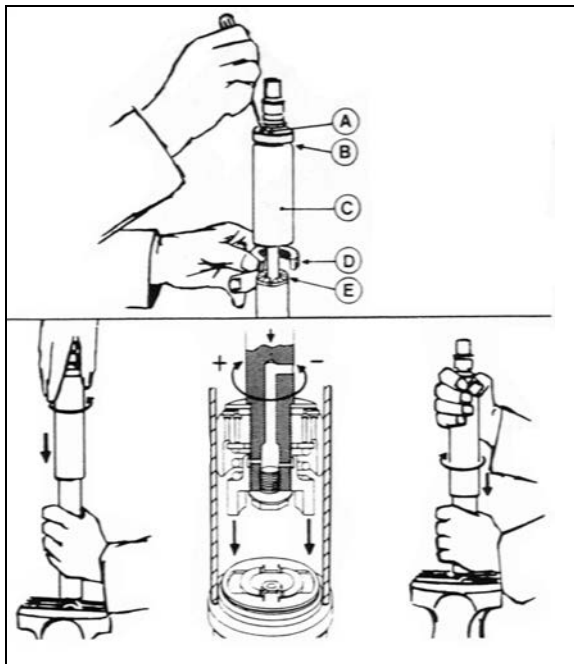

FIGURE 26: DAMPER
To adjust opening and closing cycle speed on damper (Figure 26):
2. Fully close the damper while turning the dust cap or piston rod slowly CCW until it is felt that the cams of the adjusting nut engage in the recesses of the foot valve assembly (Figure 26).
Where a bump rubber was installed, refit same inside the dust cap and by fully closing the damper, the rubber will seat again at top of the dust cap. Refit the split plastic collar E (Figure 26)